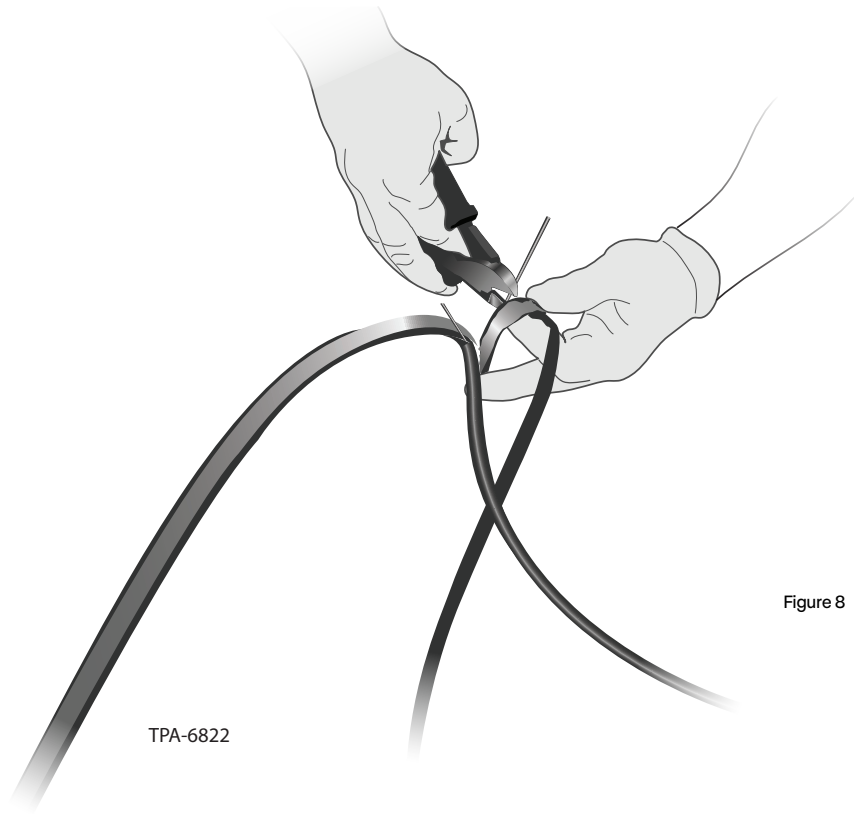

Figure 8
Step 4: At the taped location, bend back jacket/armor and then cut it off. Make sure that 1 inch of opened jacket/armor remains to allow installation of bond clamps (Figure 8).